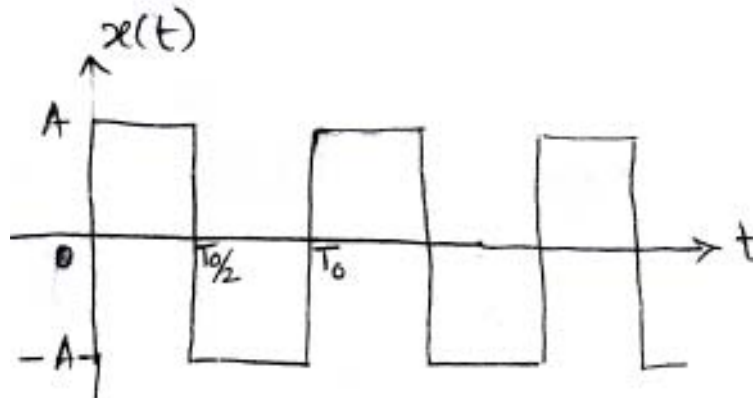

Fig. 3
- 7. b) Find the Laplace Transform of a periodic function shown in fig. 3. 8